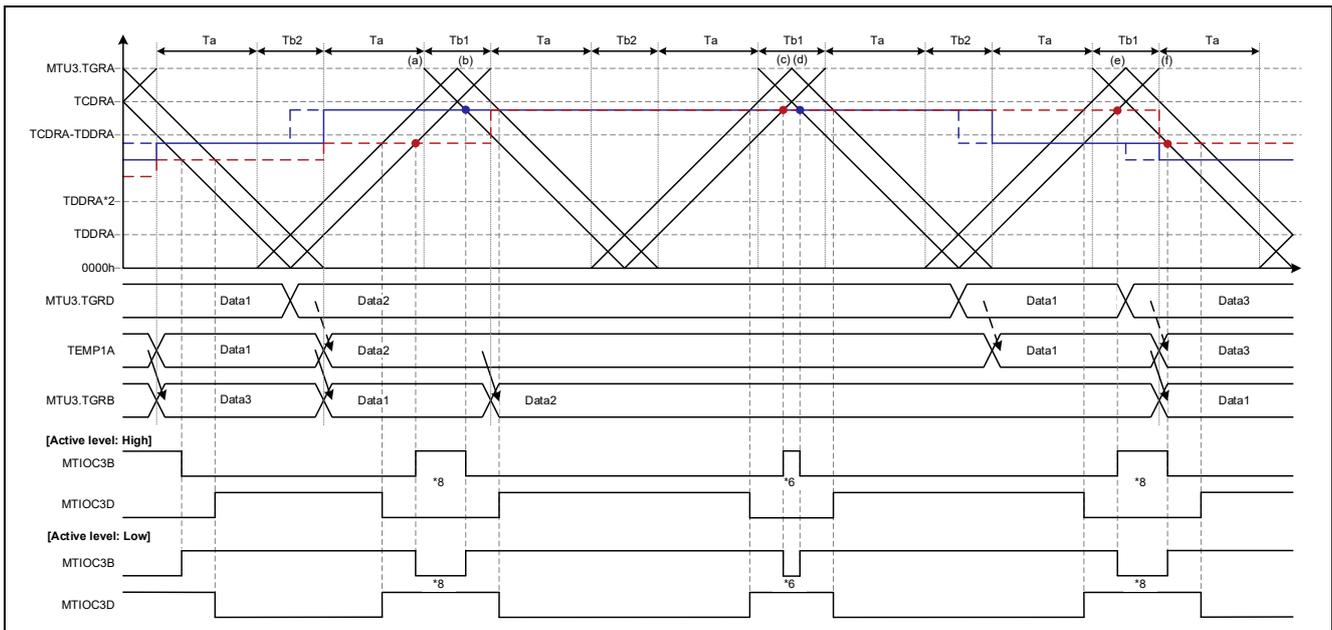

**Figure 1.43 Complementary PWM Mode 2 Operation Example
- [Operation example 2] Figure 1.43, Complementary PWM Mode 2, Output Start: Trough, Ta Interval Overwrite, cautions 6 and 8
Figure 1.43 shows an operation example of buffer overwrite in the Ta interval in complementary PWM mode 2. Except for the difference in the buffer overwrite timing, the operation is the same as that shown in Figure 1.42.